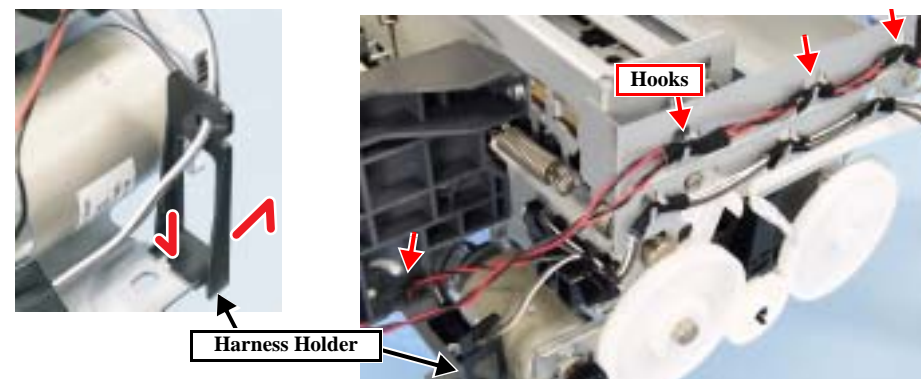

Figure 4-55. Removing the Harness Holder
5. Remove the Harness Holder. (Fig. 4-55)